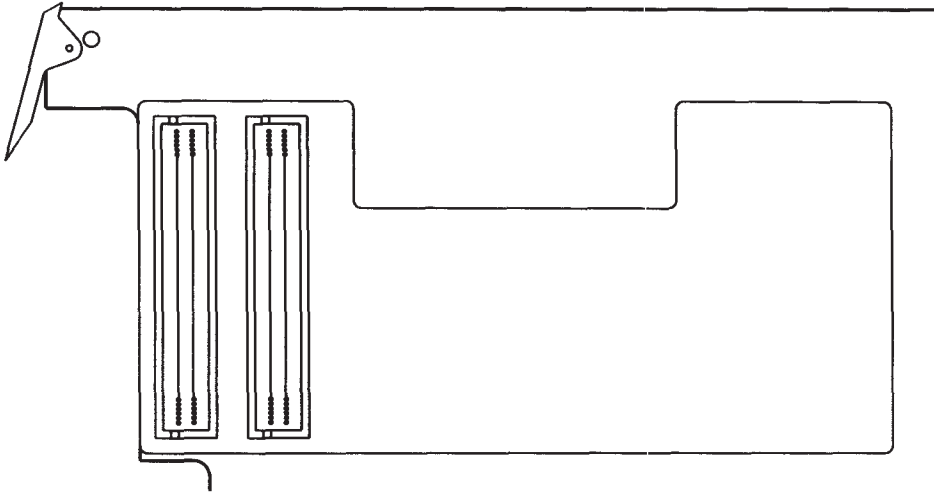

Figure 4-2. Floating-Point Accelerator Bus Cable Positioning
7. Attach one end of the FPA Bus Cable to the connectors. Make sure that the edge with the large notch is toward the side of the board, as shown in Figure 4-2.